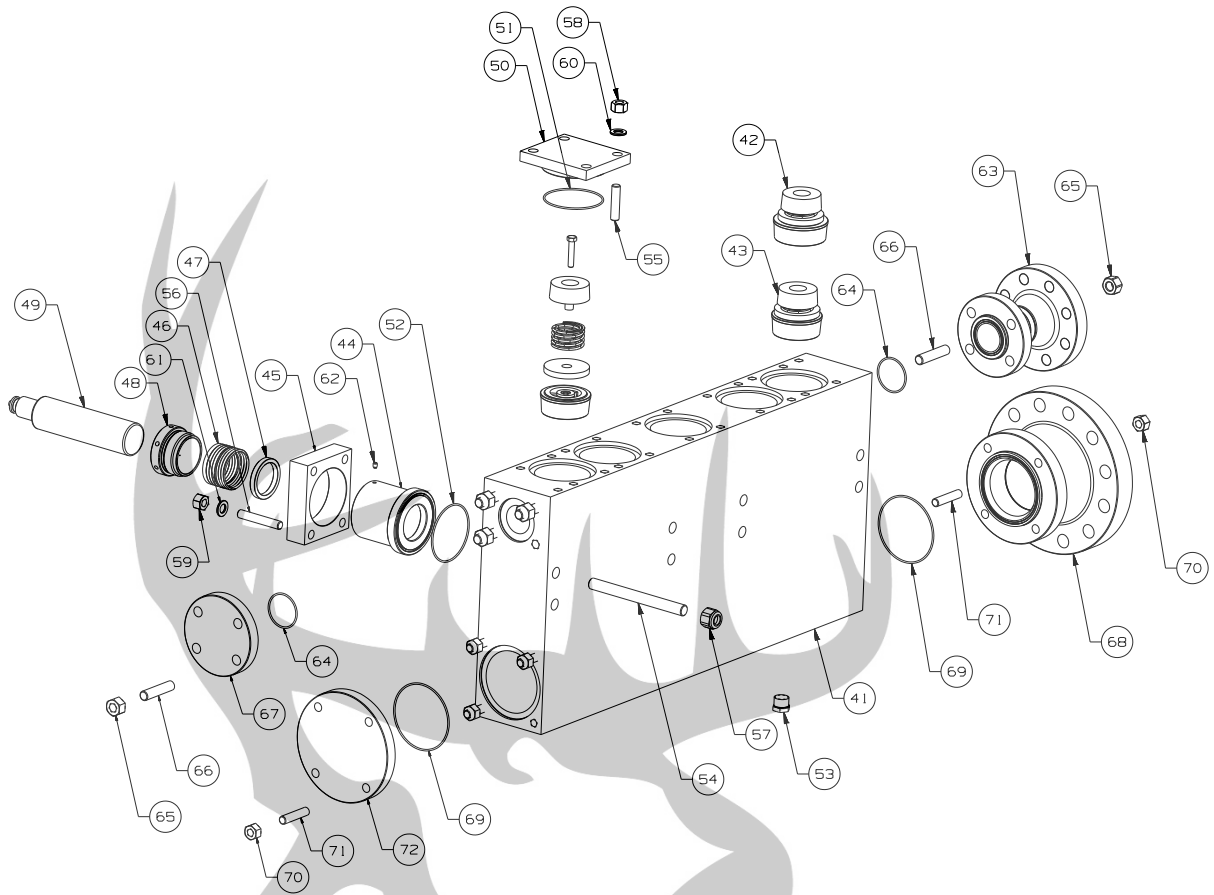

Figure 3: Fluid End Components
2. Refer to Figure 3 or Figure 4 for location of components. Unbolt the plunger clamps (18) and remove them from the plungers (49) and plunger rods (7). Removal Tip 1: If the plunger does not separate from the plunger rod (stuck together), place a wrench extension or rod between the plunger and the power frame. Rotate the crankshaft to move the plunger rod away from the plunger.
3. Loosen the set screw (62) locking the threads on the adjusting nut (48). Turn the adjusting nut counterclockwise to loosen. Use caution if the packing (46) is spring loaded. The adjusting nut will come off suddenly from the stuffing box due to spring force.
4. Remove the nuts (59) holding the stuffing box or stuffing box clamps (45) to the fluid cylinder (41) to allow removal of the stuffing boxes from the fluid cylinder counterbore. Rotate the crankshaft (2) by hand until one of the plunger rods (7) is fully retracted from the plunger (49) and push the plunger forward into the stuffing box to provide adequate clearance for removal. Removal Tip 2: Backing the plunger rod away from the plunger and adding a short rod such as a wrench extension located between the plunger and plunger rod will push the plunger further into the stuffing box and fluid cylinder. It may be necessary to hit the stuffing boxes with a rubber mallet to free them from the counterbores.
5. Slide the plunger and stuffing box out of the cradle of the pump as a single unit. Repeat this procedure for the other four plunger and stuffing box assemblies. Be careful not to lose the o-rings (52) that seal the stuffing box.
7. Remove the packing (46) by tapping out with a brass bar or by bumping the stuffing box on the table. Observe the type and orientation of packing components during removal. V-ring orientation, if V packing is installed, is critical to proper operation. The lips of the "V" must face the fluid chamber (41). Braided rope packing requires that the cuts in the rope are staggered at approximately 180° apart at installation.
8. Clean stuffing box bore and junk rings (47) such as throat bushing or lantern ring as required with 60 grit emery cloth and solvent. Clean plungers (49) with steel wool or solvent and a soft cloth. Clean other parts such as springs and adjusting nuts as required with a wire brush.
11. Reverse the previous steps to rebuild the pump after damaged components have been replaced. FMC suggests that all seals or gaskets that are disturbed during a service procedure be replaced. This includes the stuffing box face seal o-ring (52). Installation Tip: Apply grease around each o-ring before installing in the groove to prevent the o-ring from falling out when installed. Insure that all fasteners are tightened to the values specified in Fastener Torque Requirements, Section 11.0 of this manual.